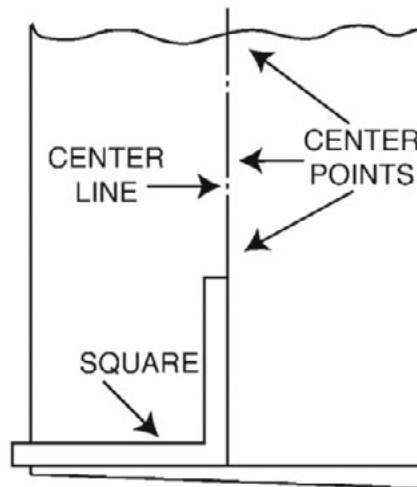

Fig.2
3. A large steel square is used to mark the transverse line at a point at which the belt is to be cut (see Fig. 2)
1. Determine the average center line as in Fig. 2